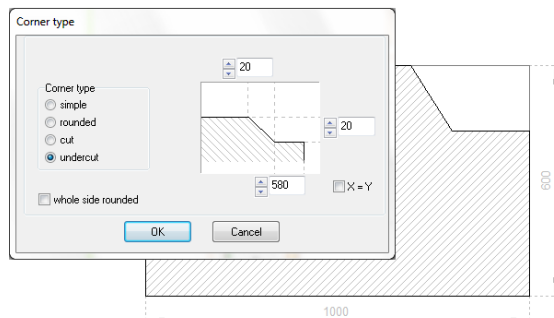

Fig. 214 – undercut corner
- enter the undercut parameters in the appropriate edit box (if the undercut values are to be identical, select  $x=y$ ) (Fig. 214);